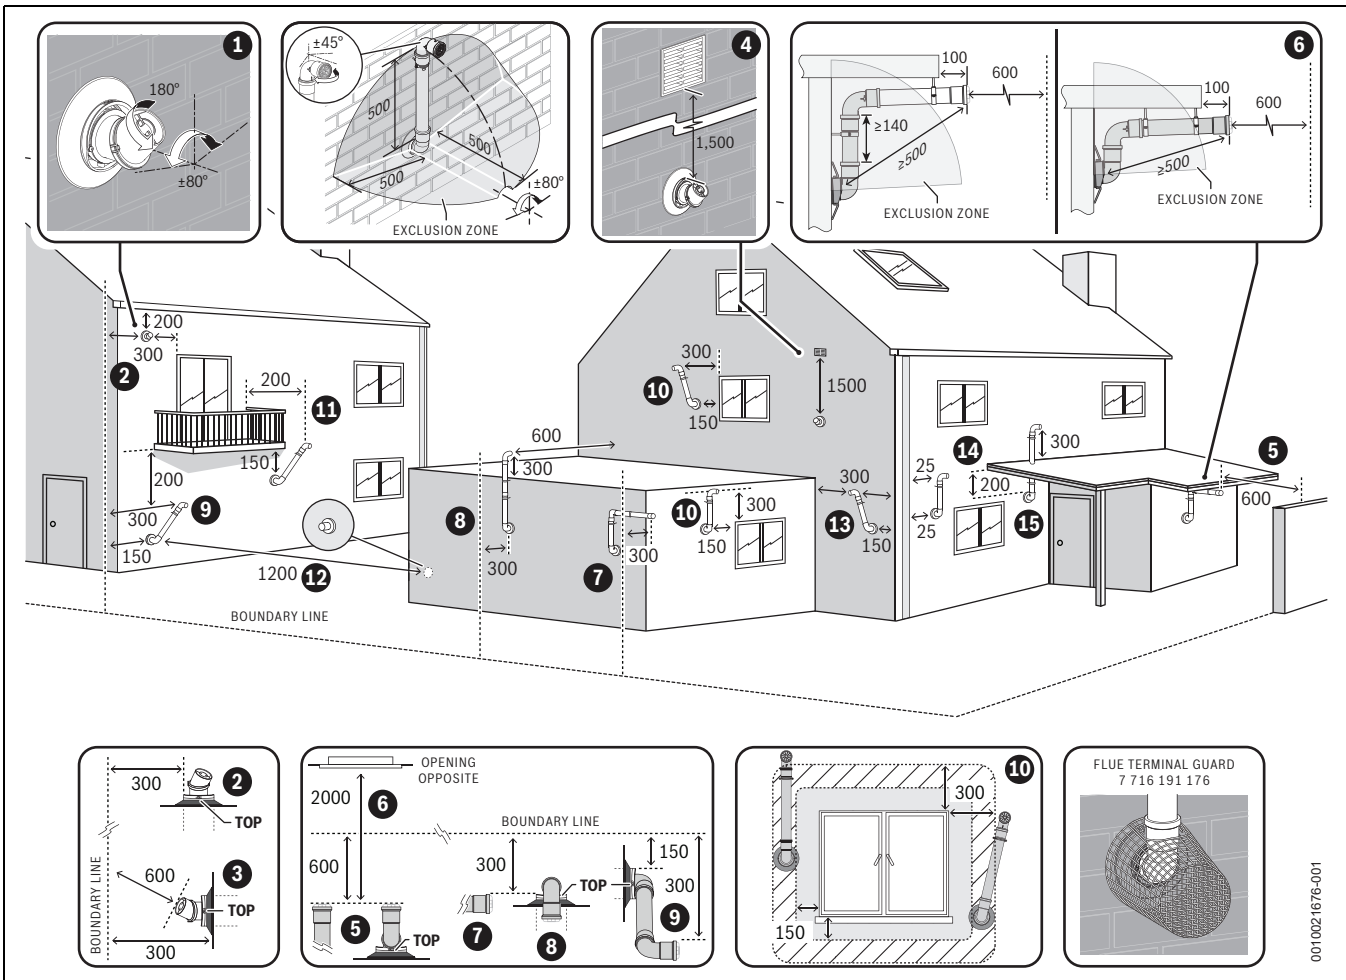

Fig. 32 Plume re-direct and plume management terminal positions
- ▶ Refer to “Horizontal flue terminal positions” for all concentric flue terminal positions unless the flue position is specified in figure 32 “Plume re-direct and plume management terminal positions”.
Key to figure 32 - Plume re-direct terminal positions:
Key to figure 32 - Plume management terminal positions: